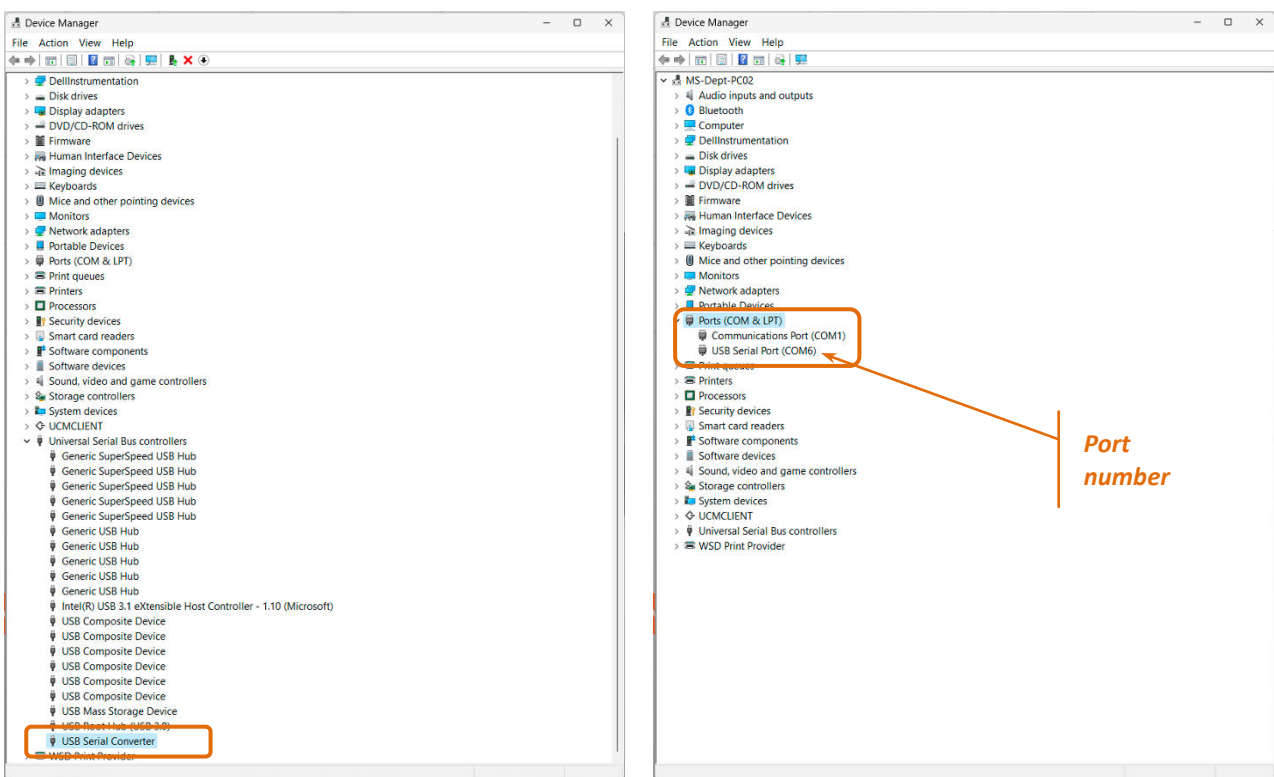

Figure 7-3 | PC Device manager
- Go to **Device Manager** on your PC (right mouse click over Windows Start button -> Device Manager). The converter's driver should be installed automatically, and you can see a situation similar to **Figure 7-3 | PC Device manager** (if driver installation is OK).